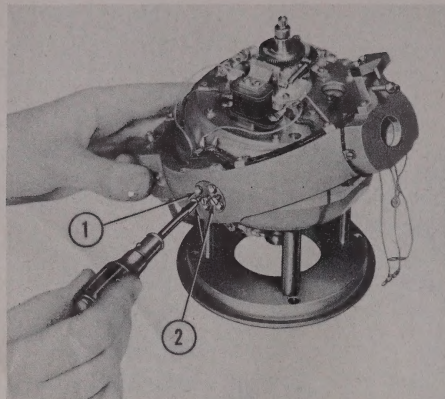

Figure 172 — Pulling Rotor Case Gudgeon Pins from Cardan
(d) (See figure 172.) Remove the four flathead screws (2) from the locked bearing gudgeon pin (1); replace two of them in the puller holes. Turn in first one screw and then the other until the gudgeon pin loosens.